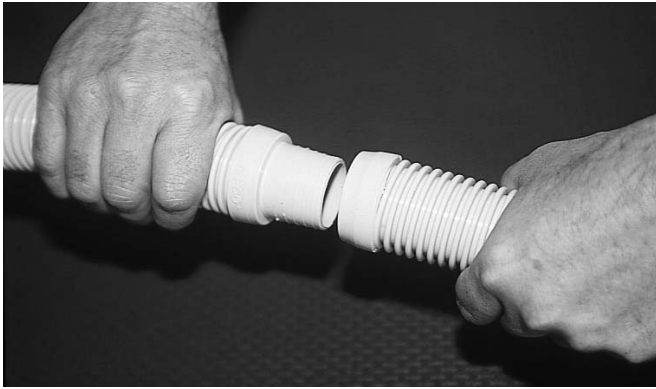

Figure 9
Step 8: Connect the hose sections (Figures 9 and 10).
Join the hose sections one to another by fitting the male end to the female end of the added section (see Figure 9). Make sure the connections are snug. The number of lengths that you will need depends on the size of your pool.